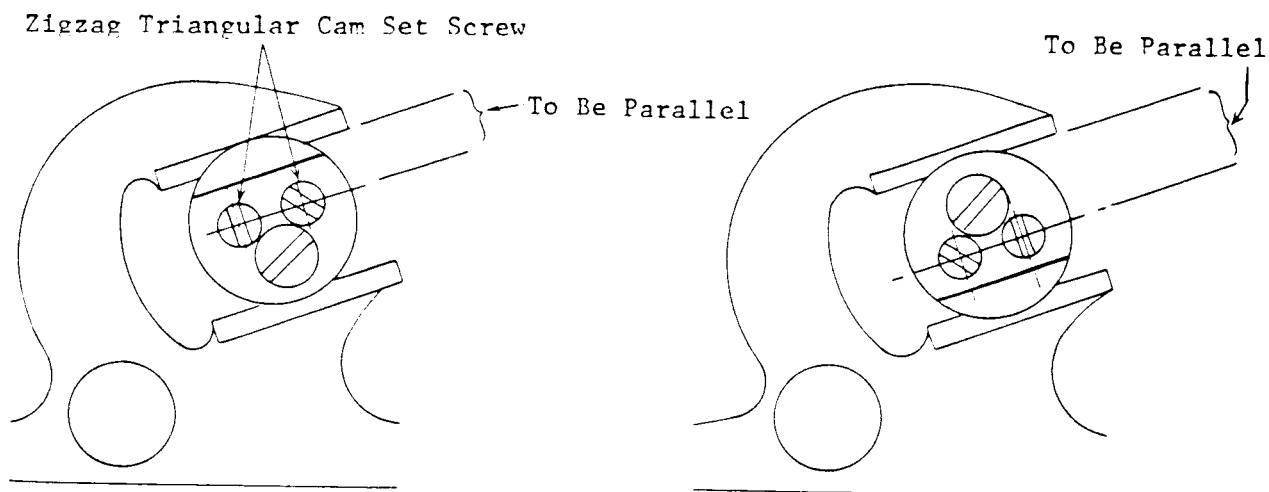

Fig. 6
3. If the triangular cam set screws are not located parallel to the bearing face of the stitch regulator fork, loosen arm shaft (horizontal) worm gear set screw and turn arm shaft worm gear as required until the triangular cam set screws are in either one of the two positions shown in Fig. 6. Then securely tighten arm shaft worm gear set screw.